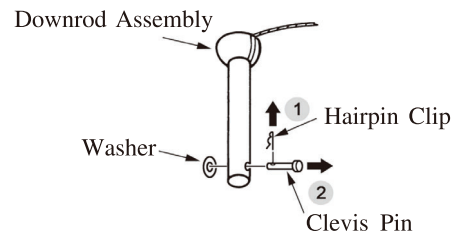

FIG.1
1. Remove the hairpin clip & washer from the clevis pin and remove clevis pin from downrod. (See fig.1)